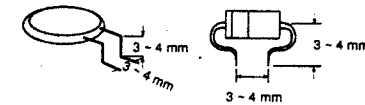

Fig. 10
- Form leads of the replacement part (general part equivalent to the chip part) as shown in the figures and solder place. (Fig. 10)